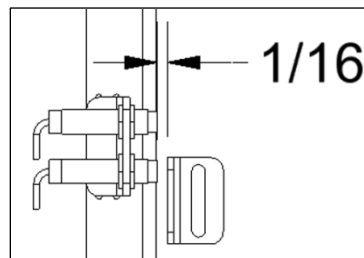

Fig. 3: Proximity Sensors
2.3.15 With the lift cylinder retracted (down position), check the position of the down proximity sensor. If needed, adjust the down proximity sensor block to a point where the LED light on the sensor comes on and the block completely covers the face of the sensor with a maximum 1/16" gap between the sensor and the block. (Fig. 3) **Note:** *Intrinsically safe sensors are opposite meaning the light will come on when the sensor leaves the block, and the light will go off when the sensor is in front of the block.*